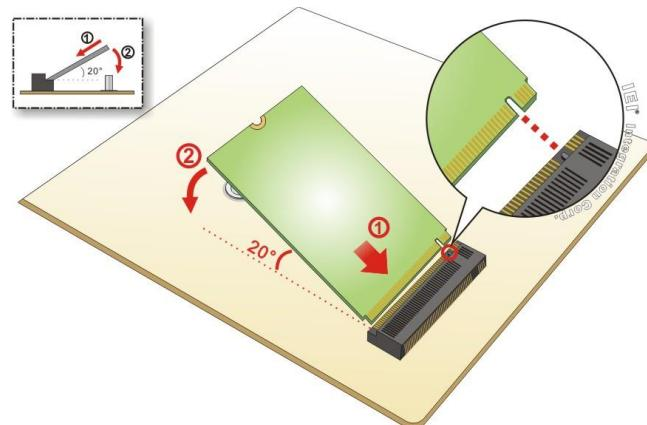

Figure 4-8: Inserting the M.2 Module into the Slot at an Angle
Step 3: Line up the notch on the module with the notch on the slot. Slide the M.2 module into the socket at an angle of about 20° (Figure 4-8).